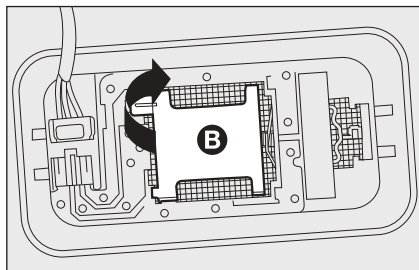

fig. 33
- ☐ open the cap **B-fig. 33** as indicated;